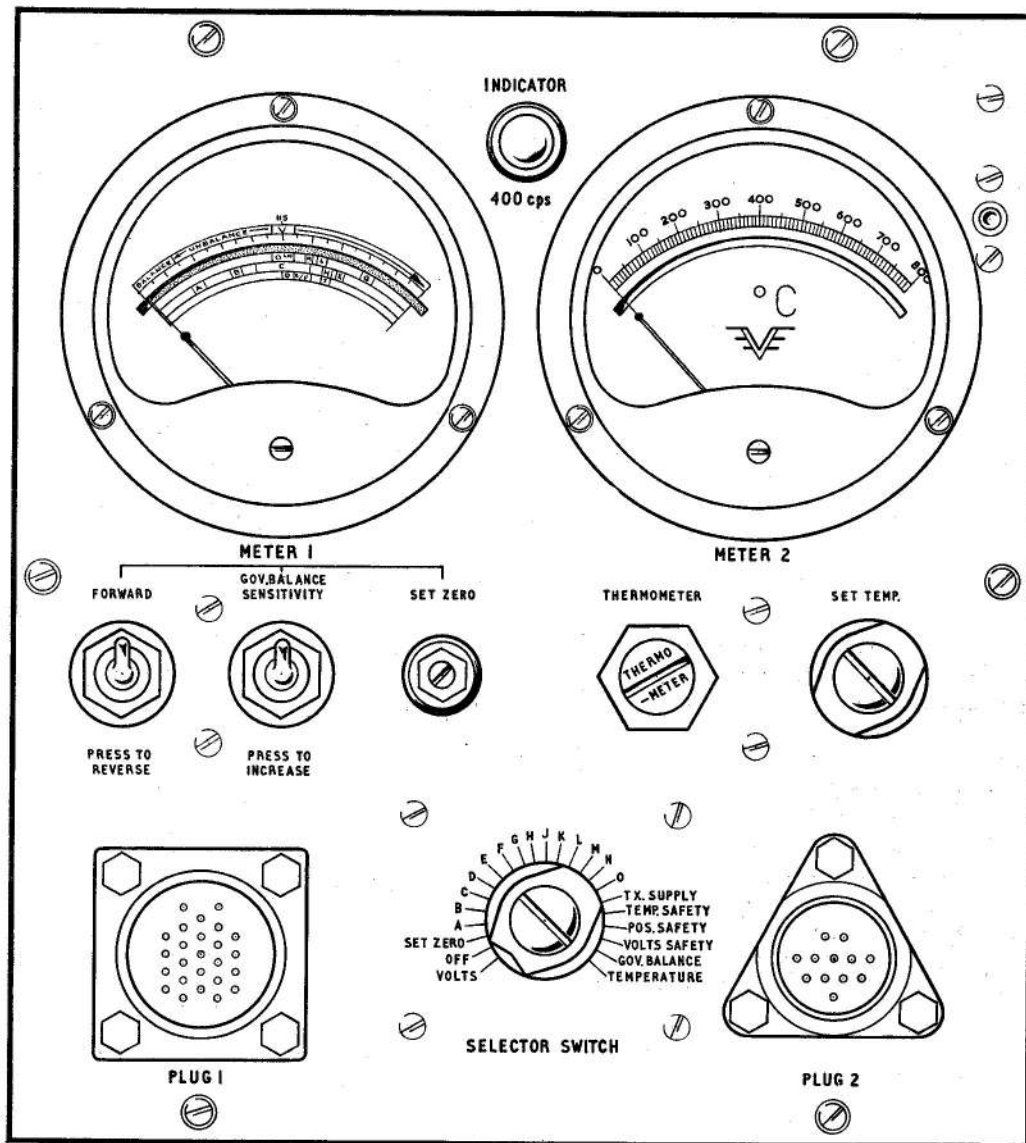

Fig. 2. Test set QT4002—front panel
10. The test set controls are illustrated in fig. 2 and 6 and are as follows:—
- (1) Switches (fig. 2):
(2) External potentiometer controls (fig. 2):